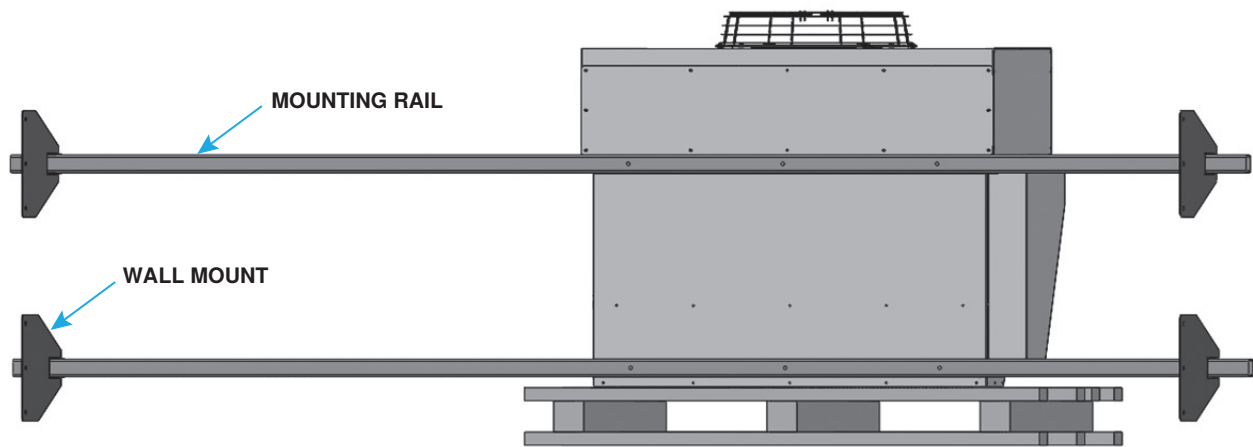

Figure 4. Mounting Rails and Wall Mounts
2. Install mounting rails with wall mounts on unit as shown in Figure 4. For optimum dispersion of heat in trailer, install rails so that unit is mounted as far left or right in door opening width as is possible. Secure rails to unit using provided hardware—3/8-inch flat washers and 3/8-16 × 3-inch bolts—in nutserts in unit's six rail mount holes as shown.